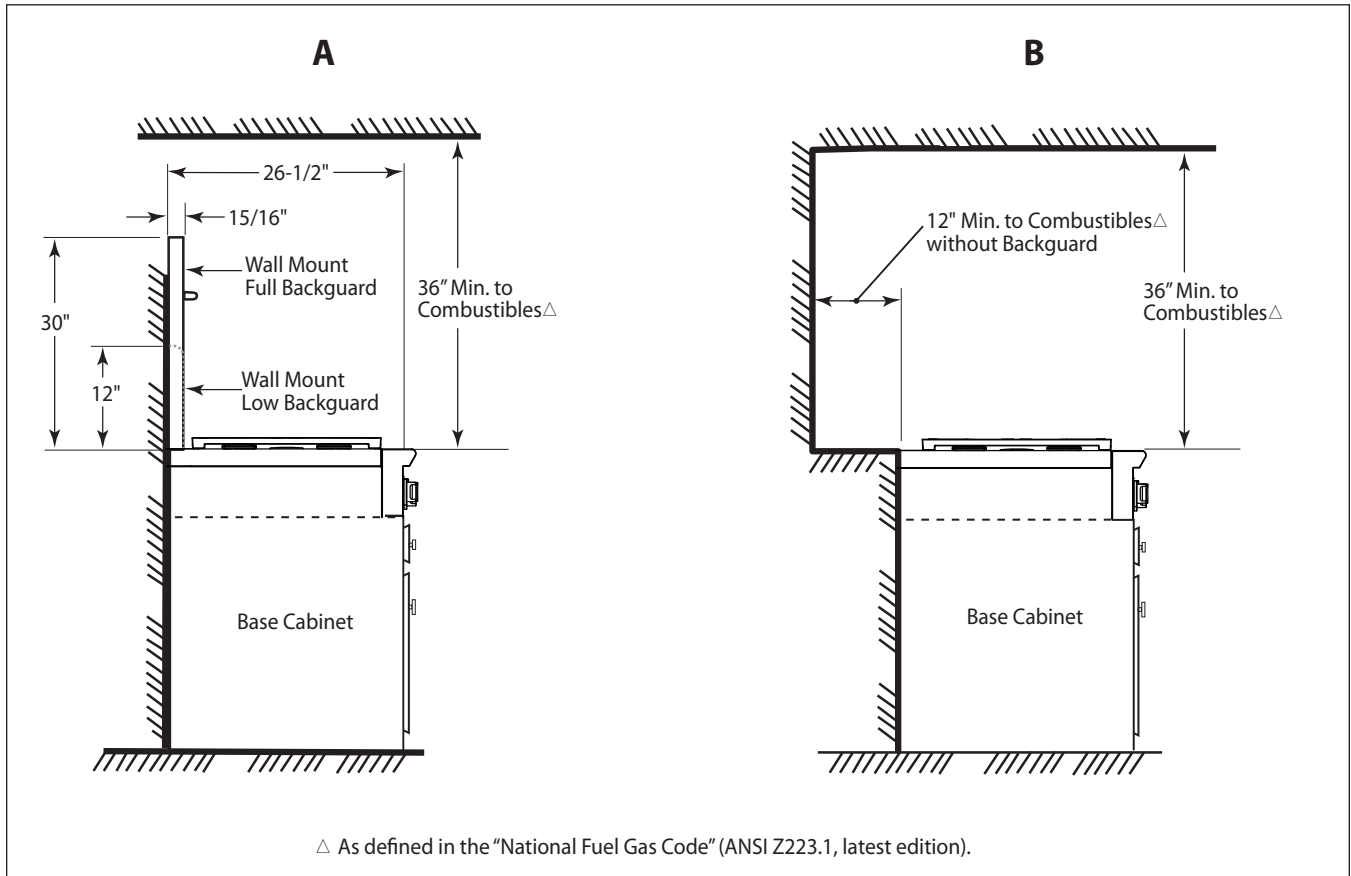
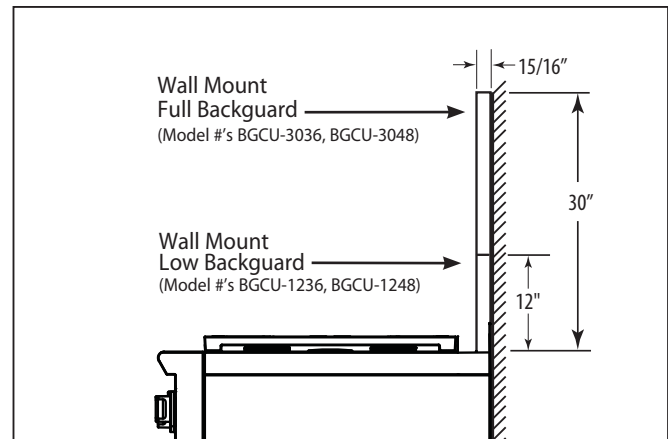

Fig. 6
Fig. 7
2. The clearances shown in Fig. 6 are required for all types of backguard installations.
The backguard is located as shown in Fig. 7. Secure the backguard to the wall behind the cooktop. Specific instructions for installation of the full backguard or low backguard can be found packaged with the backguard. See also, "Planning The Installation" section. A backguard must be installed when there is less than a 12" clearance between combustibles and the back of the cooktop (above the cooking surface). See fig. 6.